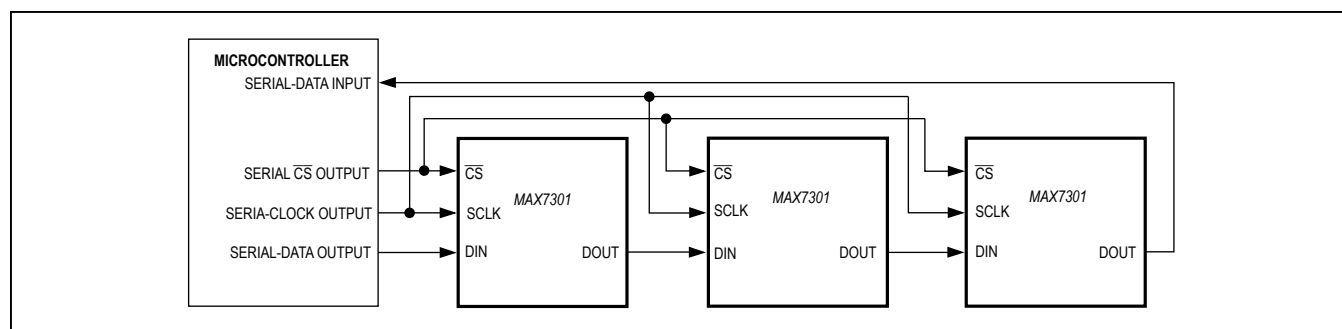

Figure 3. Daisy-Chain Arrangement for Controlling Multiple MAX7301s
**Timing Characteristics (Figure 3)**(V+ = 2.5V to 5.5V,  $T_A = T_{MIN}$  to  $T_{MAX}$ , unless otherwise noted.) (Note 1)
Multiple MAX7301s may be daisy-chained by connecting the DOUT of one device to the DIN of the next, and driving SCLK and  $\overline{CS}$  lines in parallel (Figure 3). Data at DIN propagates through the internal shift registers and appears at DOUT 15.5 clock cycles later, clocked out on the falling edge of SCLK. When sending commands to multiple MAX7301s, all devices are accessed at the same time. An access requires  $(16 \times n)$  clock cycles, where n is the number of MAX7301s connected together. To update just one device in a daisy-chain, the user can send the No-Op command (0x00) to the others.